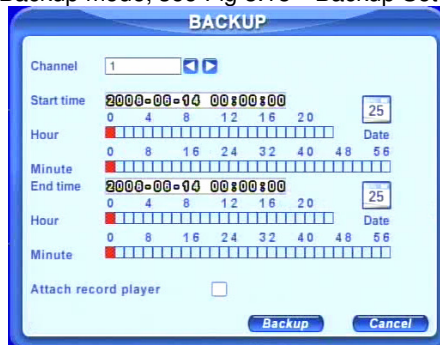

Fig 3.18 Backup Setup
STEP1 Enter Backup mode, see Fig 3.18 Backup Setup